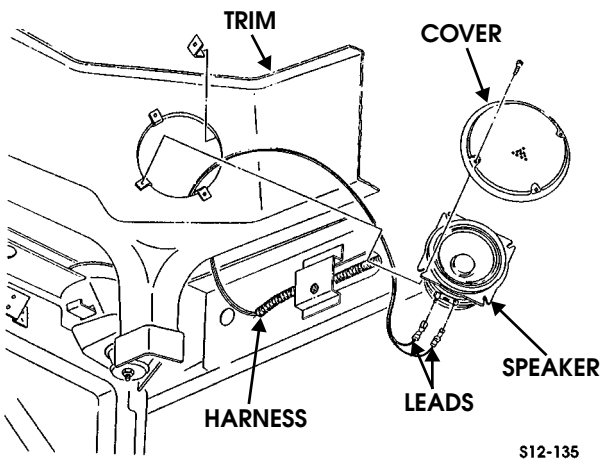

Figure 12-112: Speaker Mounting
3. Remove four screws, clips, cover, and right speaker from trim (Figure 12-112).
4. Connect two leads to right speaker (Figure 12-112).
3. Remove four screws, clips, cover, and right front speaker from trim (Figure 12-112).
7. Connect two leads to right front speaker (Figure 12-112).